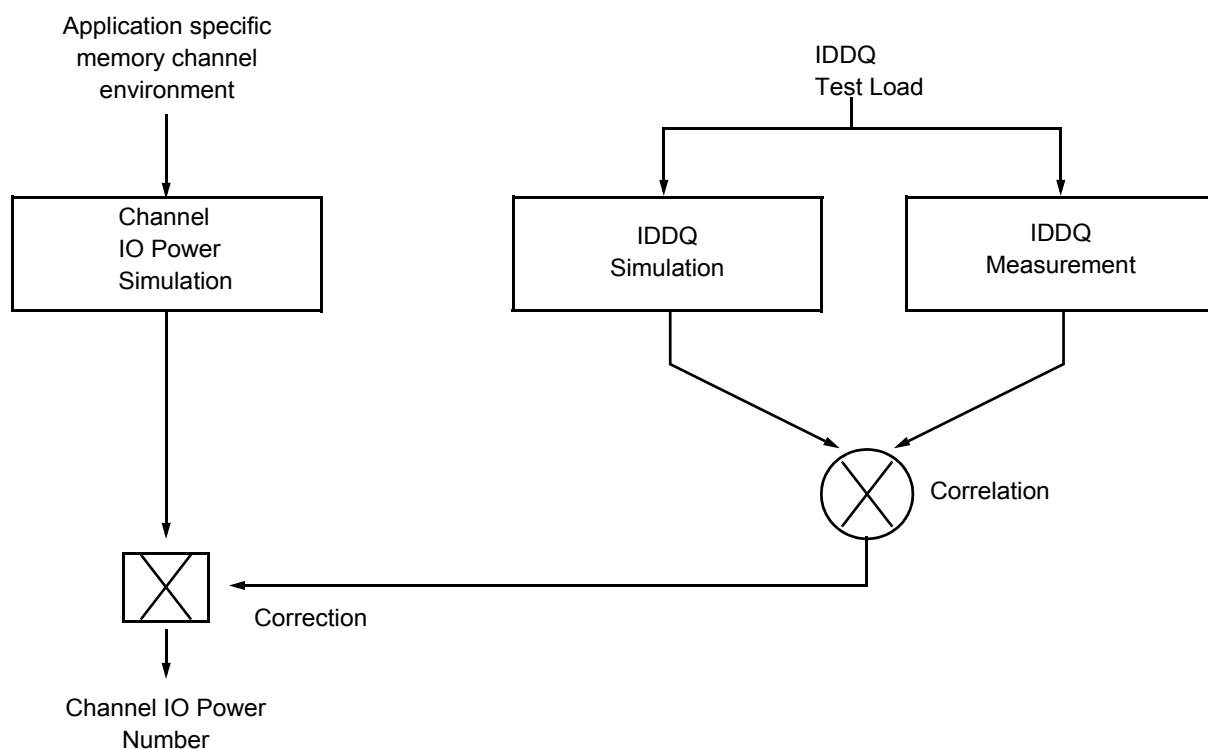

Figure 20. Correlation from simulated Channel IO Power to actual Channel IO Power supported by IDDQ Measurement.
**Attention :** IDDQ values cannot be directly used to calculate IO power of the DDR3 SDRAM. They can be used to support correlation of simulated IO power to actual IO power as outlined in Figure 20. In DRAM module application, IDDQ cannot be measured separately since  $V_{DD}$  and  $V_{DDQ}$  are using one merged-power layer in Module PCB.